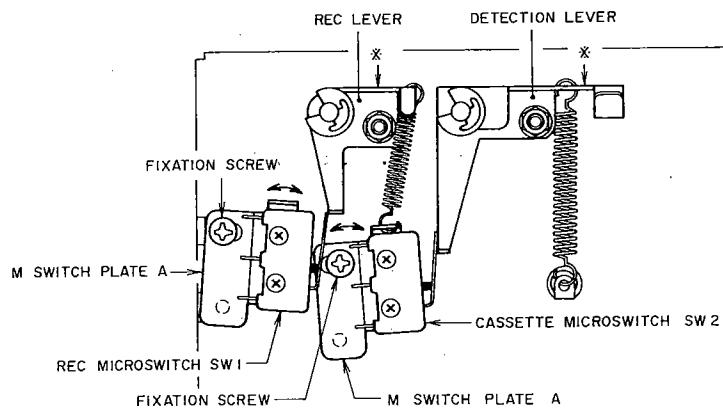

Fig. 10
7. ADJUSTMENT OF RECORDING MICRO SWITCH (SW1) AND CASSETTE MICRO SWITCH (SW2) ACTUATING POSITION (Refer to Fig. 10)
Move M Switch Plate A as indicated by the arrow marks in the figure and adjust so that when the parts of Recording and Detection Levers marked with * mark in Fig. 10 are at a horizontal level, Recording Micro Switch (SW1) and Cassette Micro Switch (SW2) are turned ON respectively. Further, confirm that when a cassette from which the recording safety tabs have been removed is loaded, Recording Micro Switch (SW1) switches, and when the cassette is removed, Cassette Micro Switch (SW2) switches. Tighten fixation screws to maintain ideally adjusted positions of M Switch Plates A.